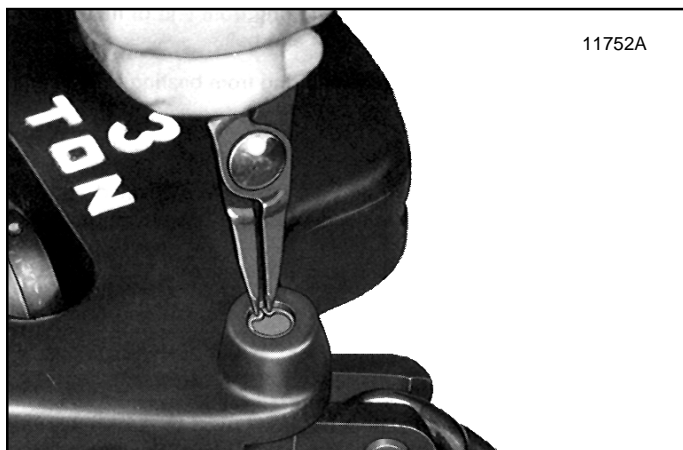
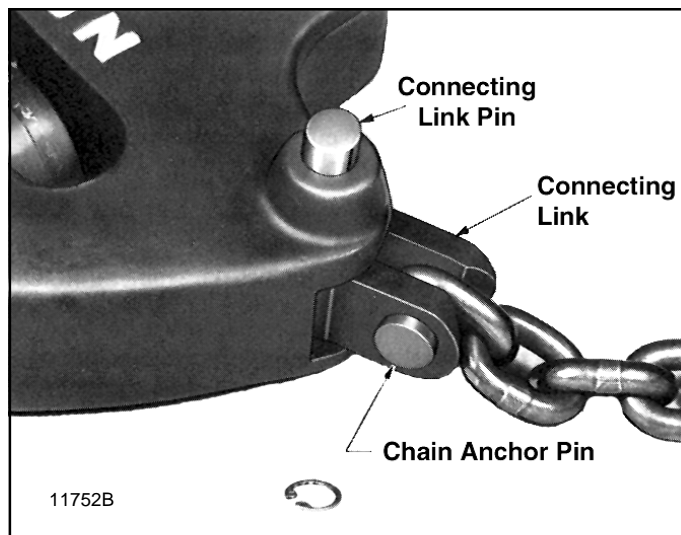

Figure 7-27. Removing Retaining Ring From Bore of Connecting Link Pin - Triple Reeved Lower Block Assembly
Figure 7-28. Removing Connecting Link Pin From Triple Reeved Lower Block Assembly
- (1) Remove chain sprocket from lower block following procedure for double reeved models described in Paragraph 7-5.b.(1) above.
- (2) To disconnect end of chain anchored to lower block, remove retaining ring from pin bore (Figure 7-27). Push connecting link pin from bore by pressing through hole provided in opposite side of block (Figure 7-28). Chain connecting link is now free and can be further disassembled for inspection.
- (3) To remove hook from lower block body, first drive grooved pin from hook nut. Then hold nut from turning using drift punch and rotate hook to unscrew it from nut. Separate hook, shroud and thrust washer from body. Note that bearing surface of washer faces nut.
- (4) To remove chain sprocket from upper suspension hanger, first remove hanger as outlined in Paragraph 7-2.a.(4). With hanger removed, push sprocket pin from hanger and sprocket. Note: Sprocket pin must be removed toward side having small anti-rotation pin slot in hanger.